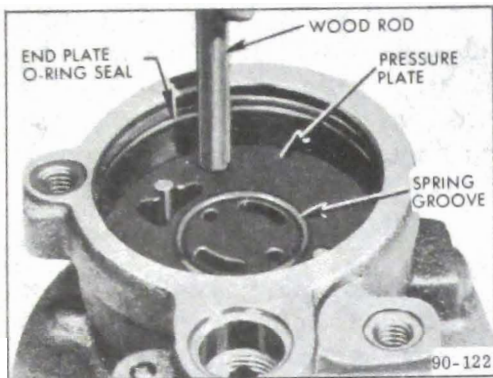

Figure 90-84 - Seating Pressure Plate in Housing
10. Lubricate the outside diameter and chamfer of pressure plate with petroleum jelly and install on dowel pins with ported face toward rotor. Dowel pins fit into slots in plate that are nearest outside diameter of plate. Use a soft plastic or wood rod and lightly tap around *outside diameter* of pressure plate to seat it. See Figure 90-84. Pressure plate will travel about 1/16" to seat. *Never press or hammer on the center of pressure plate as this will cause permanent distortion and result in pump failure.*
11. Install new end plate "O" ring seal in groove in bore of housing. Be sure not to install it in end plate retaining ring groove which is first groove from rear of housing. See Figure 90-84.